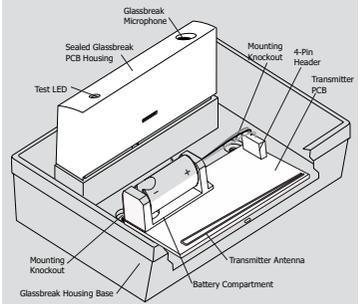

Figure 3: Mounting Holes
2. Use the provided hardware pack to mount the base to the wall. See Figure 3 for mounting hole locations.